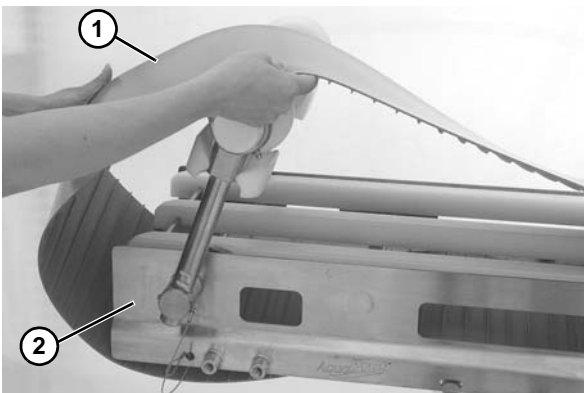

Figure 47
3. Slide the old belt (**Figure 47, item 1**) off the conveyor frame (**Figure 47, item 2**).